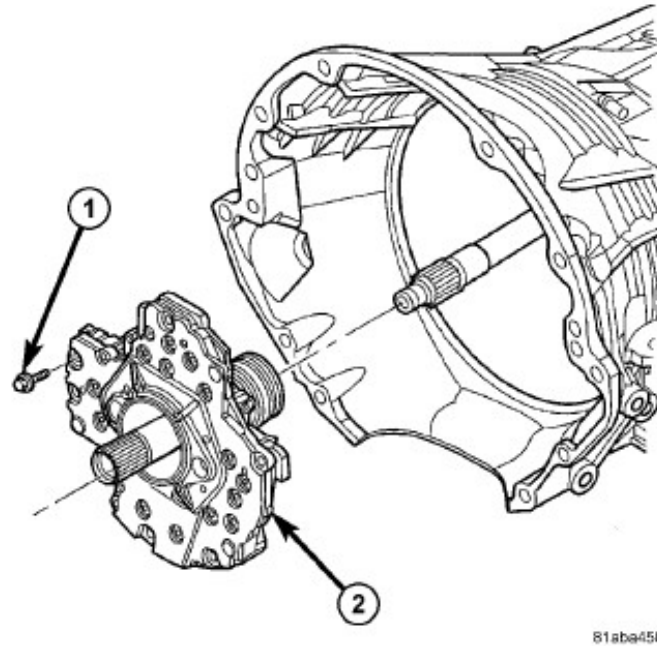

Fig. 22
43. Install the oil pump into the transmission case making certain the oil pump is flush with the transmission case Fig. 22.
44. Install the bolts to hold the oil pump into the transmission case. Tighten the oil pump bolts to 28 N·m (250 in. lbs.) Fig. 22.